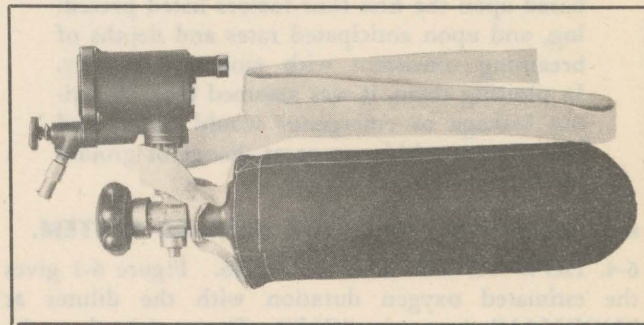

Figure 5-6. Portable Oxygen Unit, A-2 Cylinder and A-8A Regulator
- c. A high-pressure cylinder, type A-2, with an A-8A regulator and sling. (See figure 5-6.) This assembly cannot be recharged in flight.